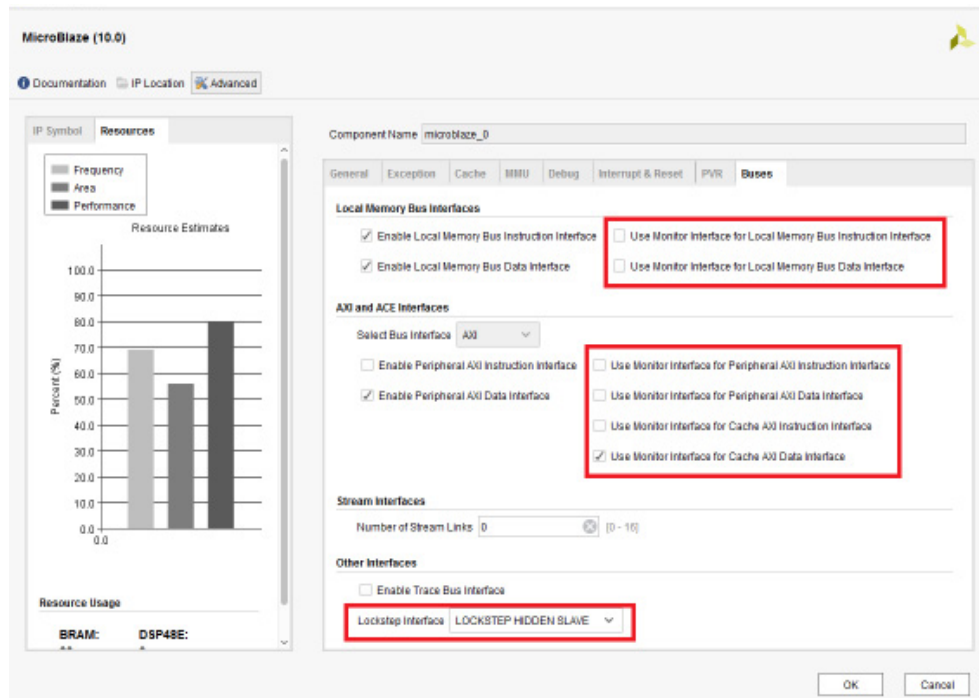

Figure 4-12: MicroBlaze Configuration Wizard Buses Page
- **Enable Local Memory Bus Instruction Interface:** Enables LMB instruction interface. When this instruction is set as shown in Figure 4-12, the Local Memory Bus (LMB) instruction interface is available.
- **LOCKSTEP_HIDDEN_SLAVE** behaves the same way as **LOCKSTEP_SLAVE**, except that the slave processor is not visible as a CPU. This setting is recommended, *except* when using private LMB memory. When this option is enabled, additional options become available under the **Local Memory Bus Interfaces** and **AXI and ACE Interfaces** section as shown in Figure 4-12. These options are explained below.